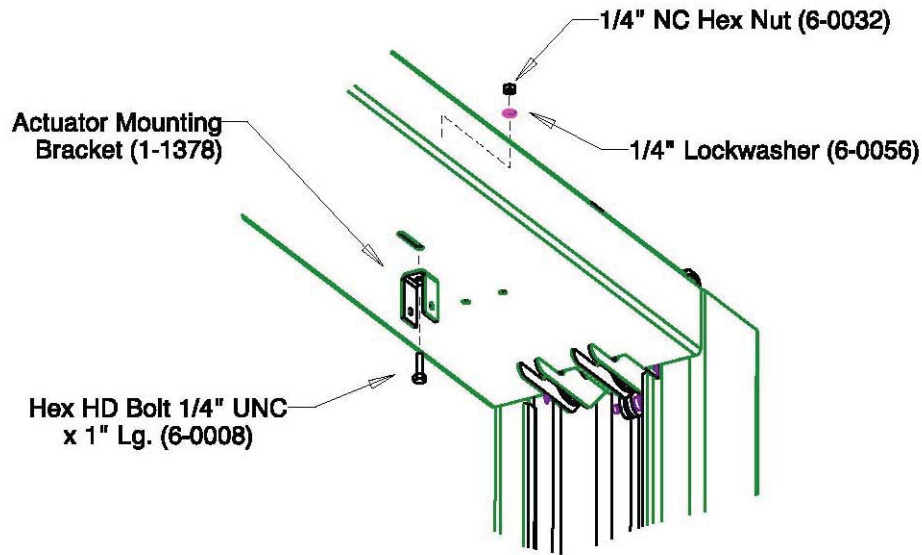

Figure 7: Actuator Mounting Bracket
1. Attach the Actuator Mounting Bracket to the crossmember using one (1) 1/4"-NC x 1" lg. hex head bolt, one (1) 1/4" ID lockwasher, and one (1) 1/4" NC hex nut. The mounting bracket should be installed in one of center slots at either end of the crossmember. (Figure 7)